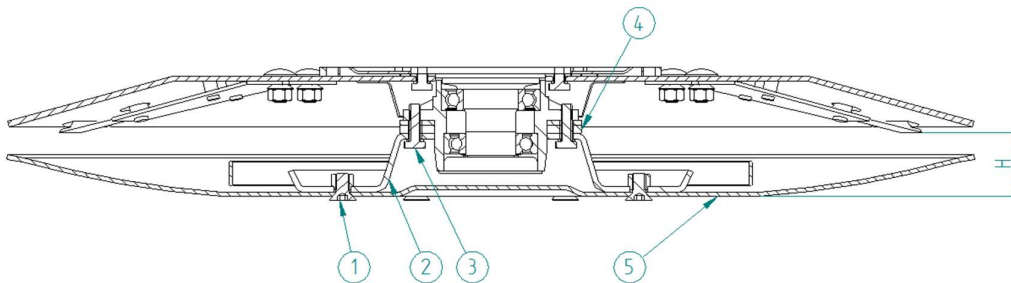

Fig 12 Cutting height adjustment: H) Cutting height
- 3) Remove the bolts (fig. 12 pos. 1) and remove the bottom saucer (fig. 12 pos. 5),
- 4) Remove the bolts (rys. 12 poz. 3) holding the bottom saucer holder (fig. 12 pos. 2) and remove it,
- 5) Adjust the cutting height (fig. 12 pos. 4 –spacers),